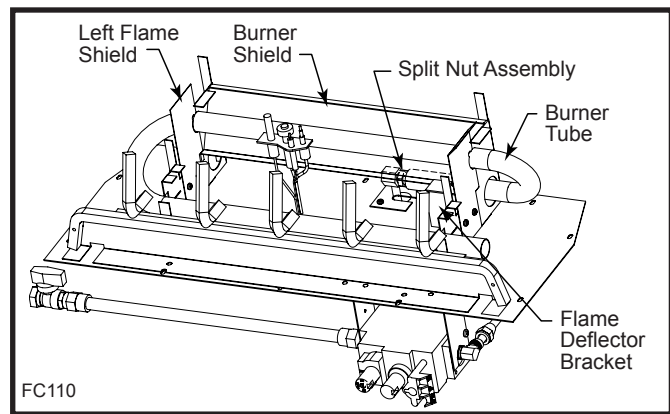
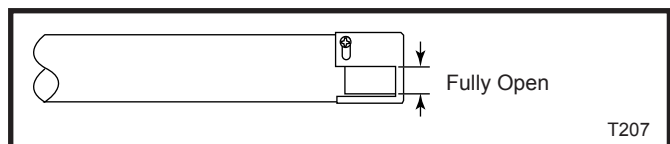

Fig. 52 Remove flame shield, flame deflector bracket and burner shield. Remove air shutter and slide burner tube to the right.
Fig. 53 Air shutter setting for propane/LP gas.
1. Remove the two (2) screws holding the pilot to the burner bracket.
2. With suitable tool, remove screws holding left flame shield. Remove flame shield. DO NOT discard. (Fig. 52)
3. Remove flame deflector bracket from burner shield (one screw) and remove burner shield. (Fig. 52)
5. Loosen split nut assembly from air shutter. (Fig. 52)
6. With suitable tool, replace natural orifice with correct propane/LP gas orifice furnished with conversion kit. Tighten orifice with suitable tool until gas tight. (Fig. 52)
8. Set the air shutter opening for propane/LP gas. (Fig. 53) Tighten air shutter screw. Replace burner shield making sure all four (4) tabs hook over side log/burner brackets. Replace flame deflector bracket. Replace left flame shield. (Fig. 52)